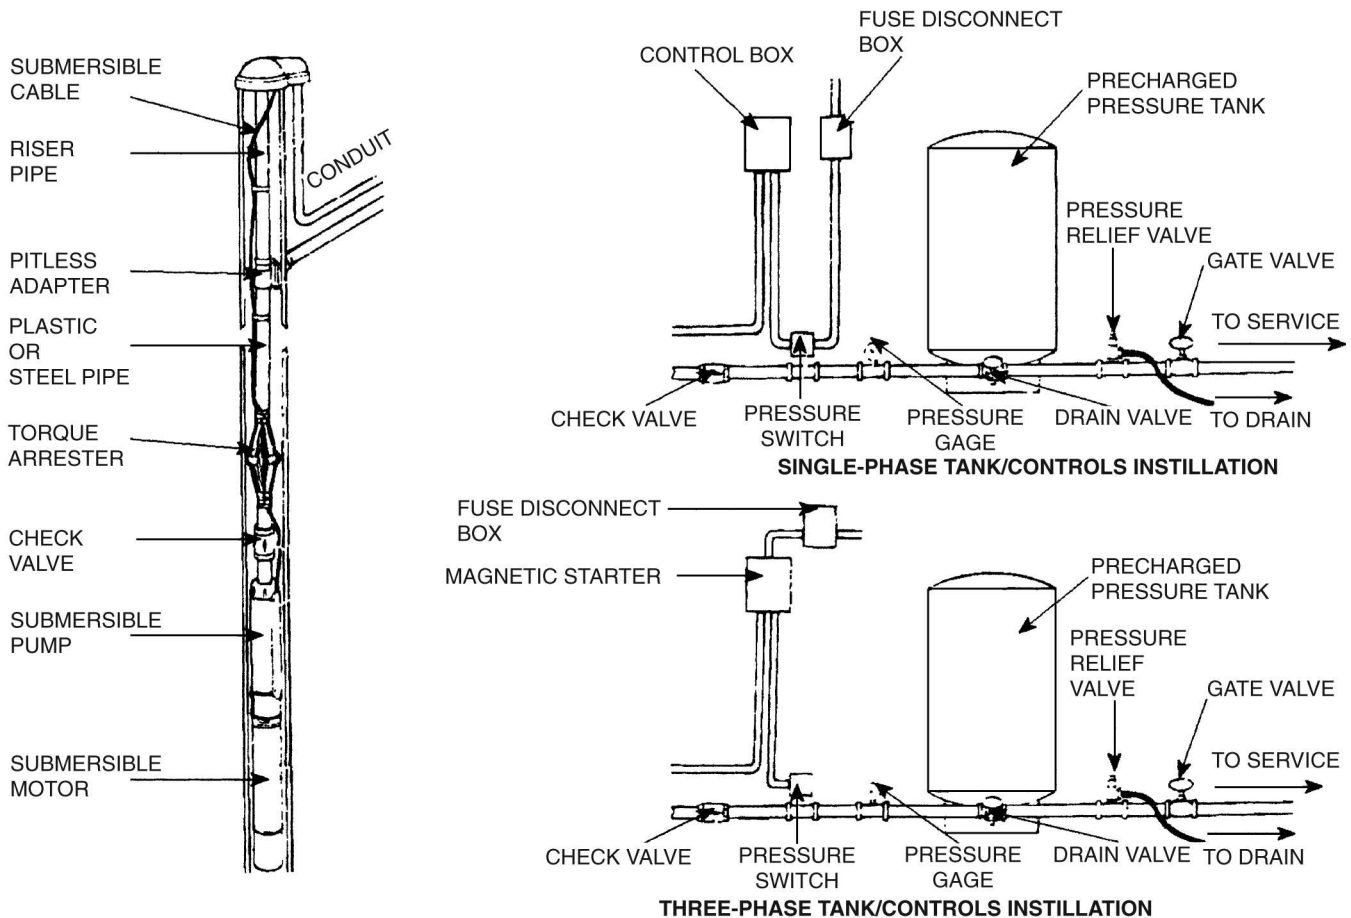

Fig. 23-6 Typical installation with precharged tank.
- On a standard pneumatic tank system, air is introduced to compensate for that which is absorbed by the water. Each time the pump cycles, air is added to the tank through a bleeder and snifter valve. The excess air is released by a float assembly (air volume control) in the upper side tapping of the tank (see Fig. 23-6).